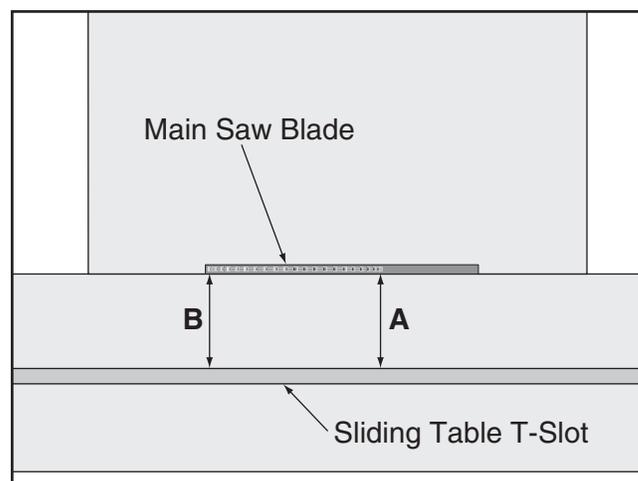

Figure 143. Measuring the distance between sliding table T-slot and main blade.
5. Use the adjustable square to measure the distance from the sliding table T-slot and the main saw blade at the mark you made in **Step 4**. This is distance "A" shown in **Figure 143**.